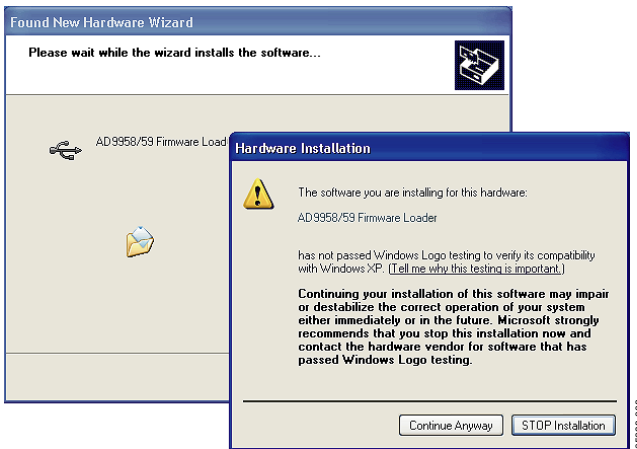

Figure 8.
4. Click **Continue Anyway** when you see the window in Figure 8.